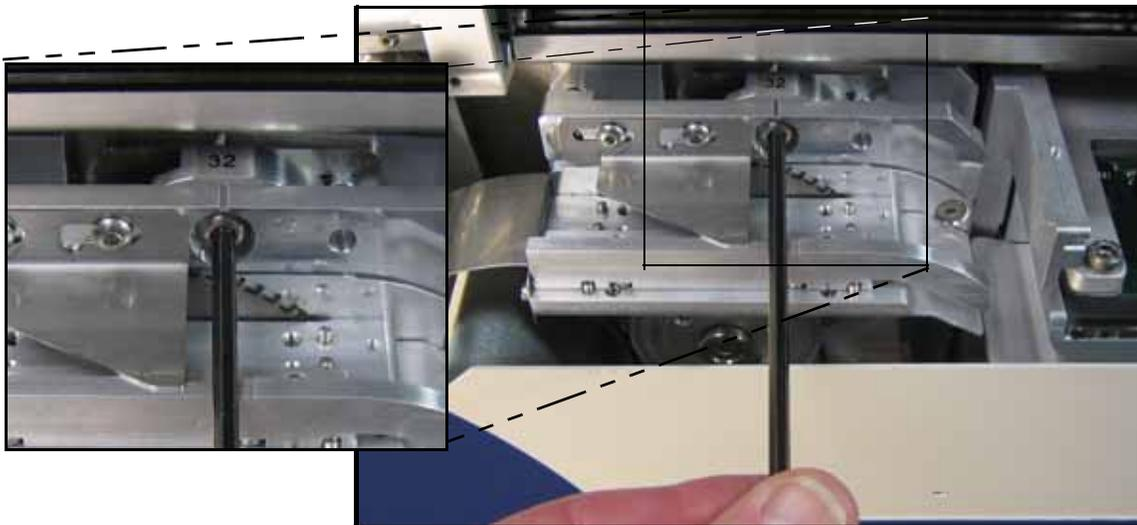

Figure 3-8—The notch currently indicates 32 mm. Unscrew the Position Locking Screw most the way out (about 20 mm).
4. Unscrew the Position Locking Screw most the way out using a 4 mm Hex Key. See Figure 3-8.